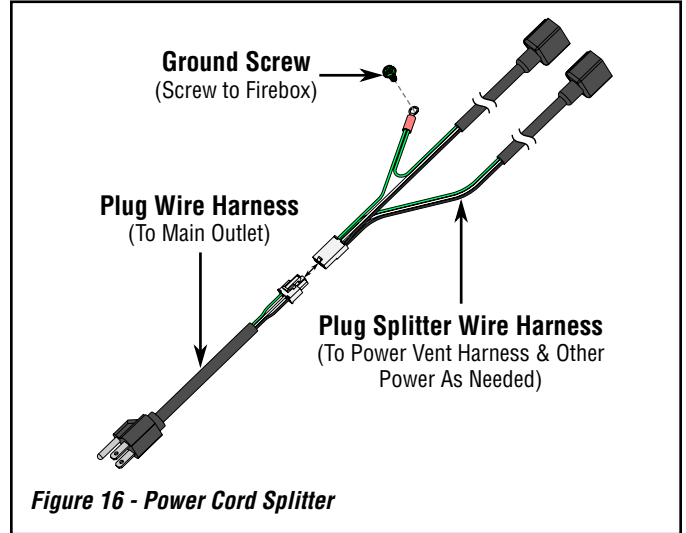

Figure 16 - Power Cord Splitter
- 9.1 Connect the male three pin connector on the **Plug Wire Harness** [#19] to the female three pin connector on the **Plug Splitter Wire Harness** [#20] (**Figure 16**).